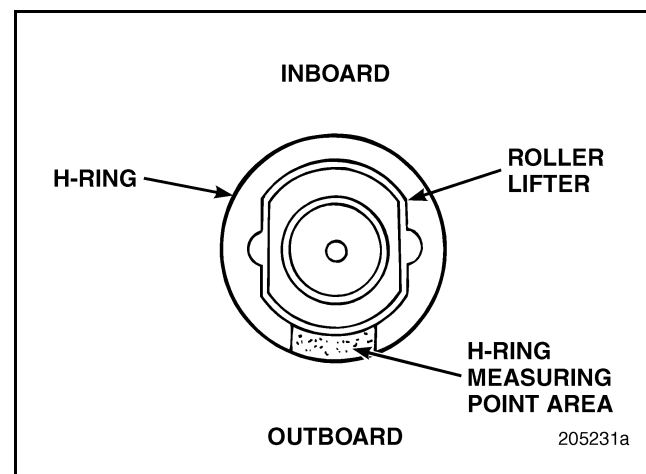

Figure 323 — H-Ring Measuring Point
2. Place an approximate 15-inch length of welding rod on the top of the H-ring, at the outboard side. Refer to Figure 323.